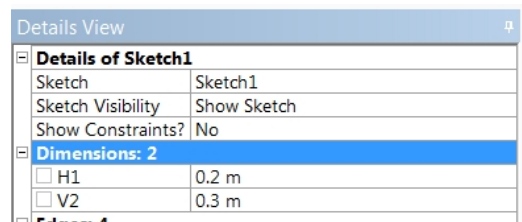

Figure 7: Rectangle dimensions
11. In the **Details View** pane on the left side of the window, set the value of **H1** to 0.2 [m] in the box beside it. Also set the value of **V2** to 0.3 [m]. The result should look like Figure 7.